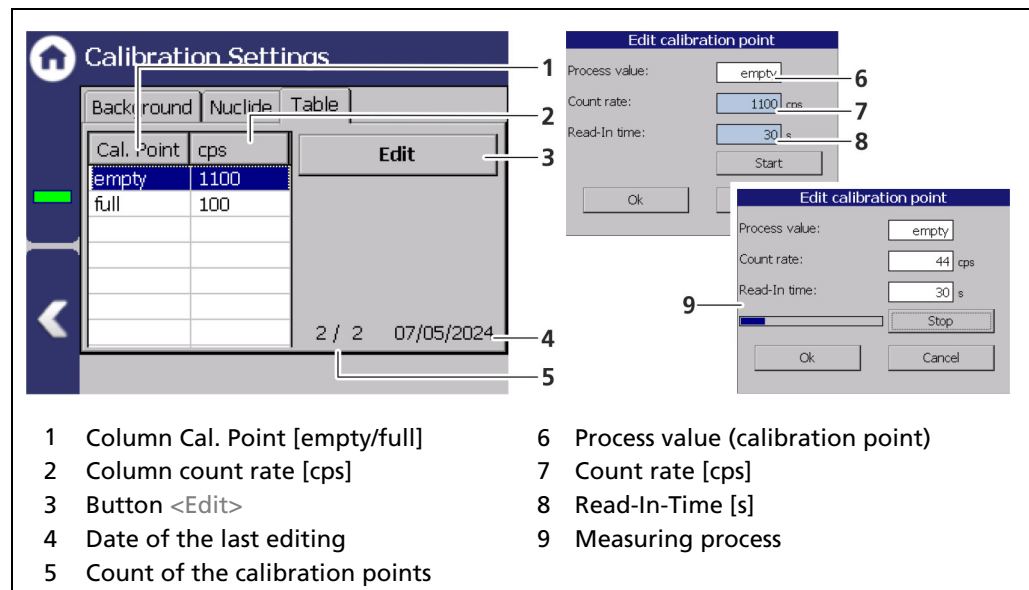

Fig. 67 Calibration setting table (2 Point Exp calibration type)
2. Select the isotope used. Cs-137 (Fig. 66, item 3) or Co-60 (Fig. 66, item 4). The isotope of the source is on the type plate of the screen (Fig. 67).